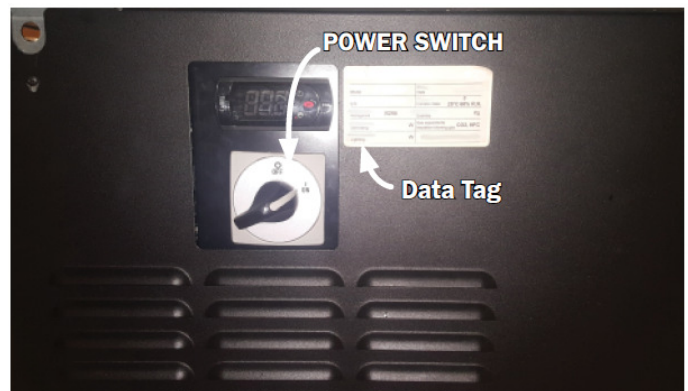

Fig. 7 Lower panel switch locations
3. Turn the power switch to the ON position (Fig. 7). The case should begin normal operations.
The defrost cycle is very important in that it ensures correct operation of the cabinet. It is activated and controlled by the thermostat which temporarily stops the condensing unit, allowing the evaporator to shed the build-up of ice. Fan speeds during defrost and refrigeration are independently adjustable using the Rheostat boards shown in Figure 7 on Page 9 (Items C & D). The default settings utilize a higher fan speed during defrost to minimize off time and ensure a clear coil. For factory settings see page 2 of this manual 'TECHNICAL DATA'.